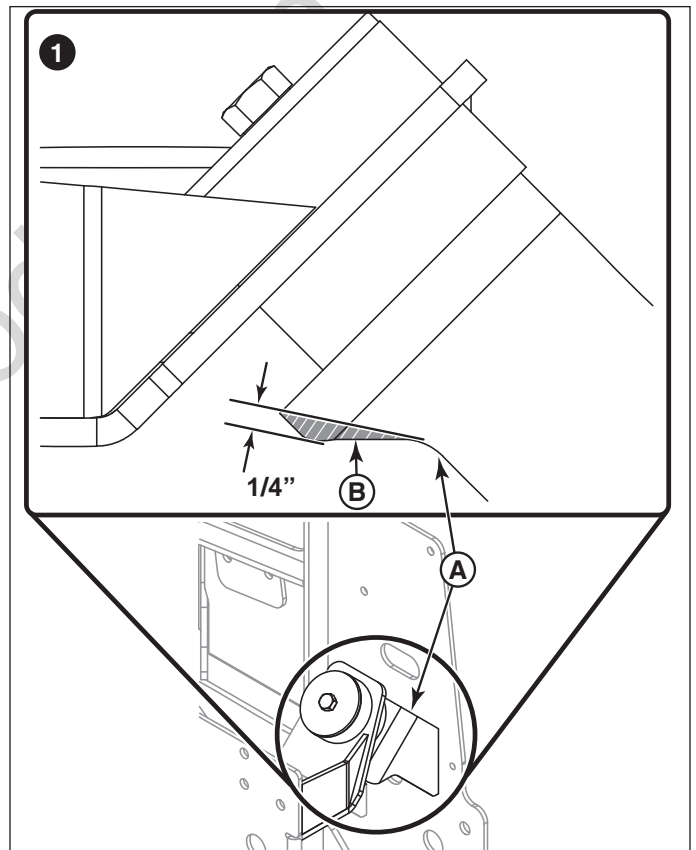

Figure 10. Grinding the Engine Cradle Mount
The frame's engine cradle mount (A, Figure 10) needs to be modified to provide adequate clearance for the new gearbox.
Starting at the lowest point of the bend grind off about 1/4 inch of material from the gearbox mount (the shaded area (B) in the inset 1, Figure 10). This is only required on the leg of the cradle mount that is closest to the rear of the machine.